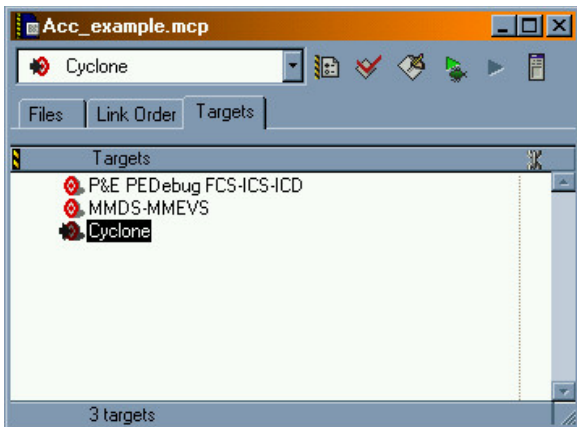

Figure 1-19. New Project Window – Set Targets
20. Click on the Targets tab and select Cyclone. See Figure 1-19.